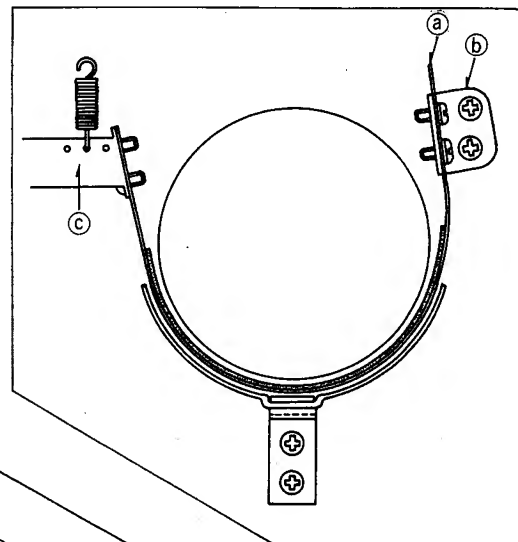

Fig. 4b
- 3) For metal Brake Band Retainer, adjust Screw (b), so that the clearance between the Brake Band and motor circumference is uniform, as shown in Figure 4B.